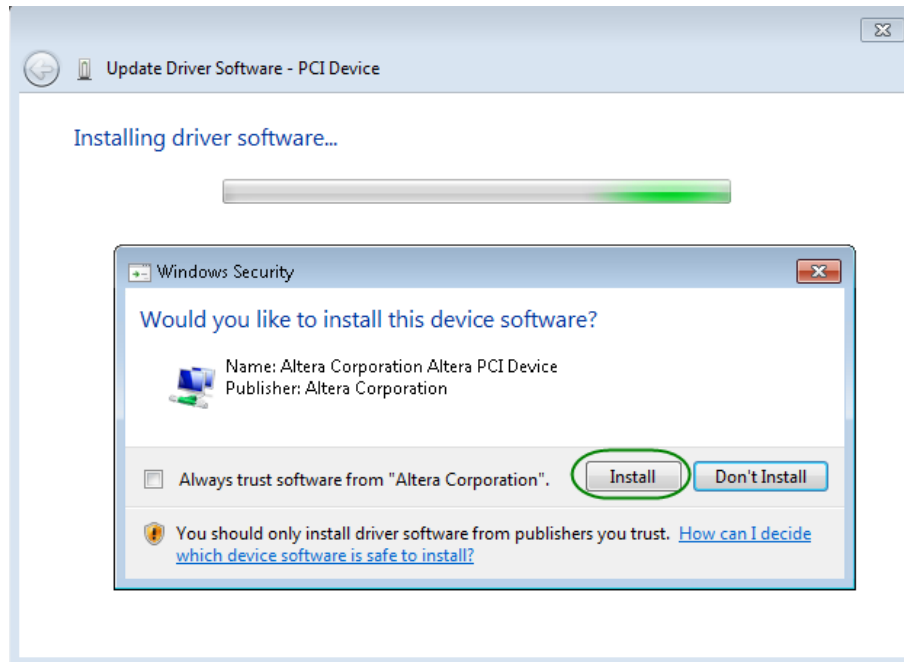

Figure 1-6 Click Install in the dialog of Windows Security
8. When the **Windows Security** dialog appears, as shown **Figure 1-6**, click the **Install** button.